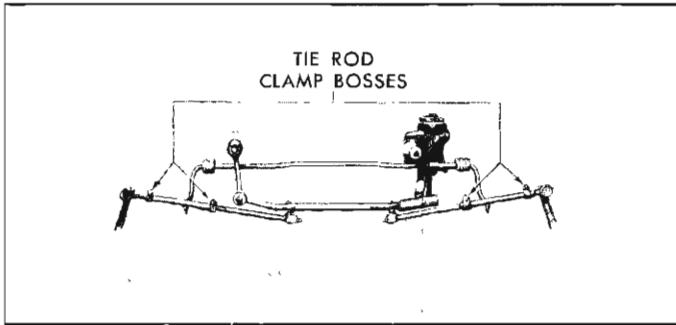

Fig. 3—Toe-In Adjustment
2. Loosen clamp bolt at each end of each tie rod and adjust to a total of  $1/8''$  to  $1/4''$  toe-in (Fig. 3).